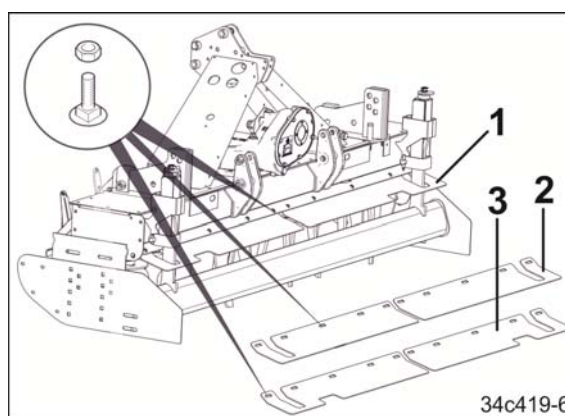

Fig. 79
The protective panels (Fig. 79/1) of the soil tillage implement are available in two versions.
- Protective panel (Fig. 79/2) for all AMAZONE rollers, except Cracker Disk roller (CDW)
- Protective panel (Fig. 79/3) for Cracker Disk roller (CDW).